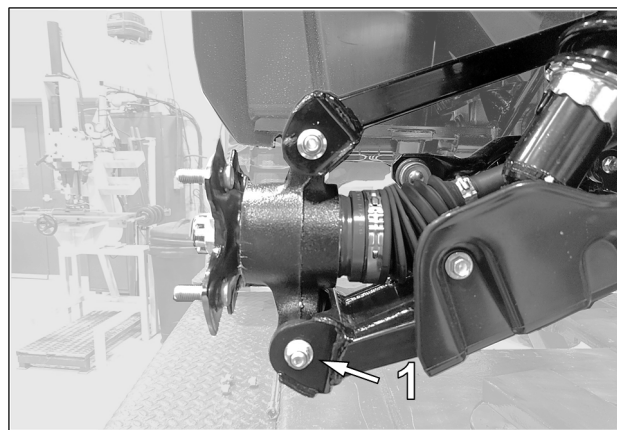

Fig. 6
- Remove bolt (**1**) that secures lower suspension arm to wheel hub. See Fig. 6